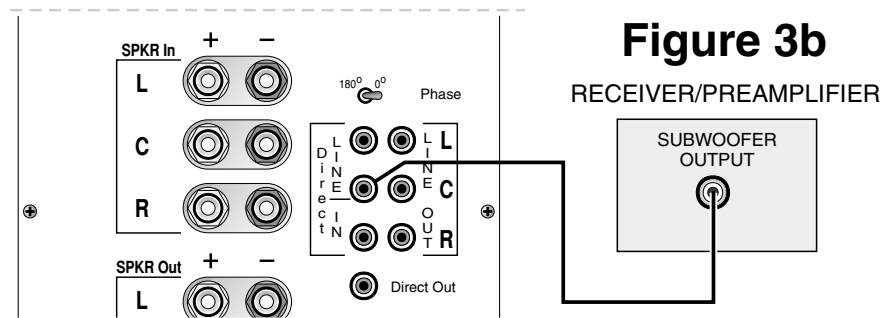

Figure 3b
1. For the Rev0 version, connect the subwoofer or LFE output from your receiver/processor to the Center line-level input as shown in Figure 3b.